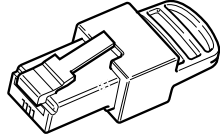

Figure 2-12 Network Terminator
- Network terminators (Figure 2-12)—the Xanbus network must be properly terminated at each end to ensure the communication signal quality on the network. Network terminators plug into network ports on Xanbus-enabled